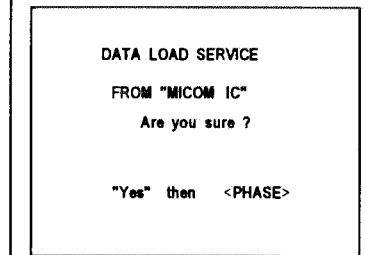

Fig.2
- 3)The screen as shown in Fig.2 will be displayed.